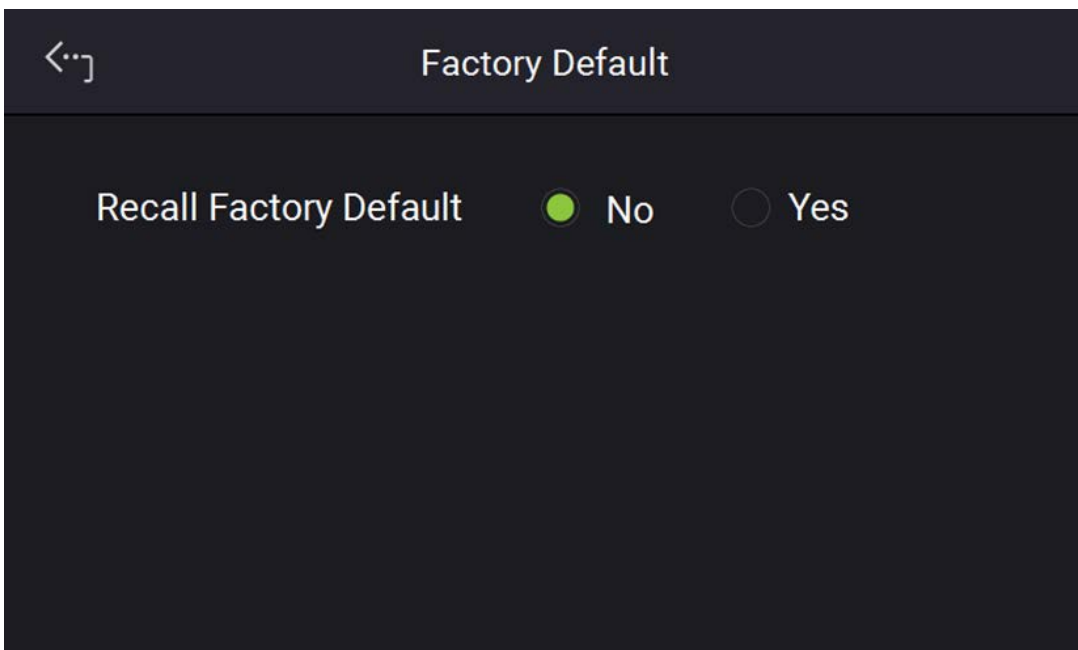

Figure 3-16
1. In Menu page, tap “System Setup” and select “Factory Default”, the screen appears as Figure 3-16 shows.